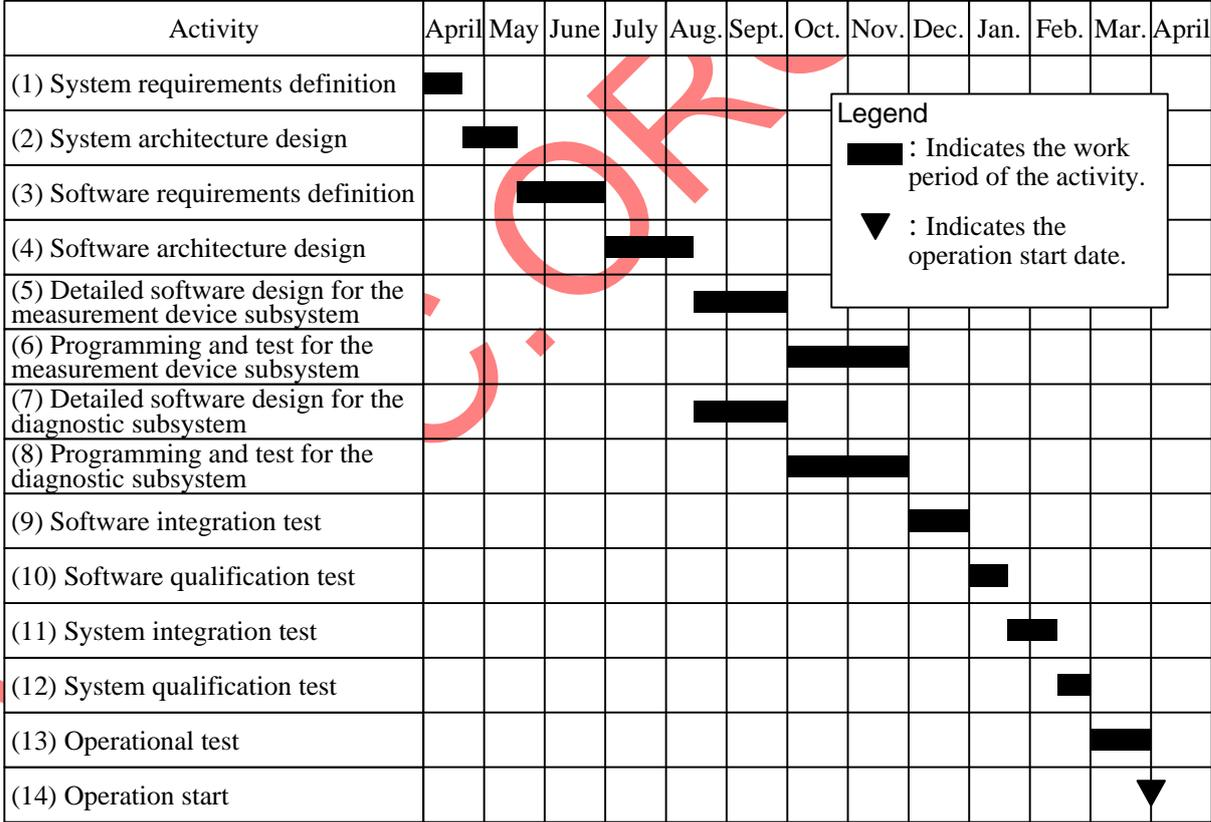

Figure 2: Schedule of the project for developing the equipment diagnostic system
Figure 2 shows the schedule of the project for developing the equipment diagnostic system.
In Figure 2, the operational test is to be performed by the customer and is mainly intended to verify operation in the actual operational environment, verify the initial data, and train maintenance personnel who use the system.
Mr. C belongs to the development team of Company A, and has been assigned to the test plan development for the equipment diagnostic system. He is in charge of the test activities (8) through (12) in Figure 2. First, Mr. C determines the activity defining the requirements to be verified and the purpose of the test for each test activity, and summarizes the result as test activity definitions shown in Table 1 below.
From (1) through (14) in Figure 2, select the appropriate activity to be inserted in each blank through in the table and description.